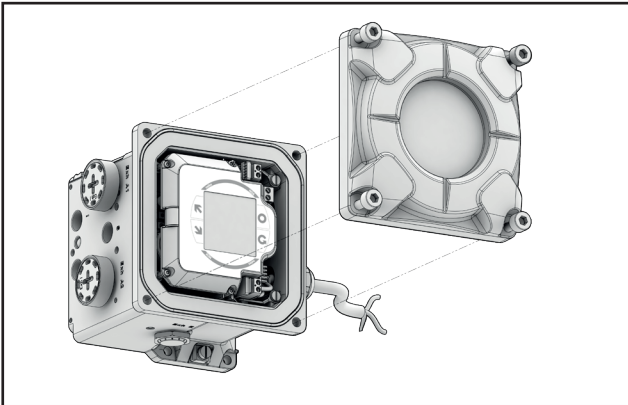
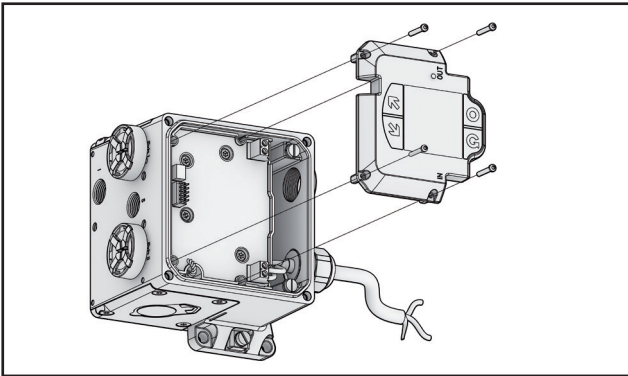

Fig. 91. NDX\_511\_ and NDX\_512\_
Fig. 92. NDX1510\_
- Loosen the display screws and remove display. (Fig 91, Fig 92)